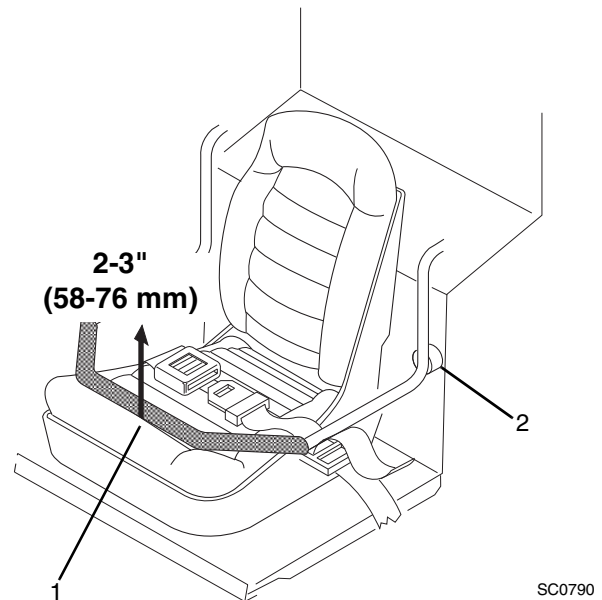
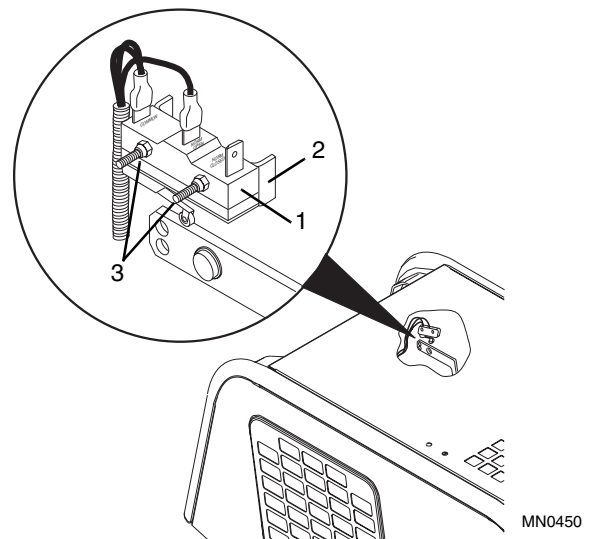

Figure 9-43 Loader Arm Lockout Micro Switch Adjustment
Figure 9-44 Seat Bar Micro Switch
38. Check the loader arm lockout micro switch (Fig. 9-44, 1) for proper adjustment. The seat bar (Fig. 9-43, 1) should be able to be raised 2-3" (58-76 mm) from the fully lowered position, with the bar resting against the rubber stops (2), before activating the loader arm lockout switch.
- a. Remove two plastic plugs on the left side of the cab to access the capscrews that secure the micro switch (Fig. 9-44, 1) to its mounting bracket (2). Loosen both locknuts (3) on the inside of the cab, until the micro switch (1) can be repositioned using a slight hand force.
- b. Reposition the micro switch (Fig. 9-44, 1) in small increments, rechecking the seat bar travel required to activate the switch with every move. When the seat bar travel (Fig. 9-43, 1) is within 2-3" (58-76 mm), tighten the two locknuts (Fig. 9-44, 3) securely.